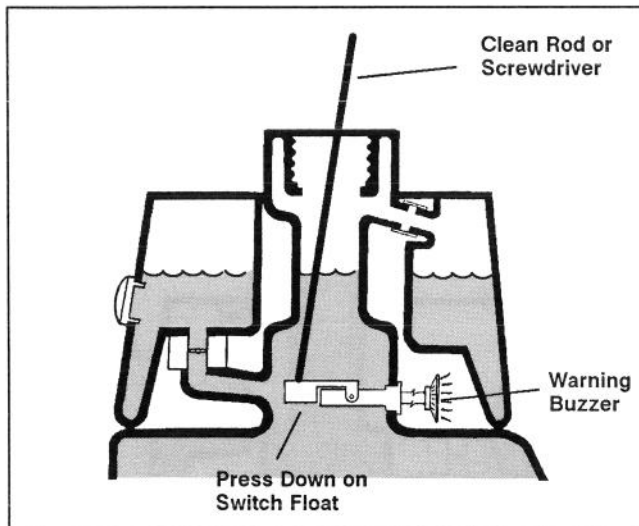

Figure 22
- C. Insert a clean rod or screw driver into tank neck and gently push down on switch float (Fig. 22). Alarm should sound after one second delay.